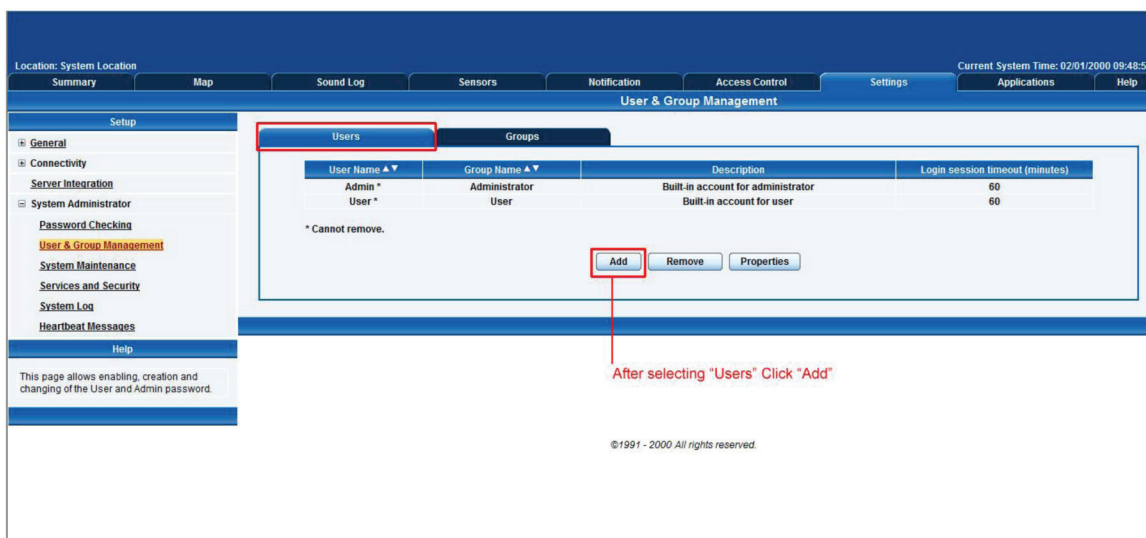

Figure 3-18. User Setup screen.
1. Click on the “Users” tab and then click the “Add” button to add the new users to your groups as shown in Figure 3-18.